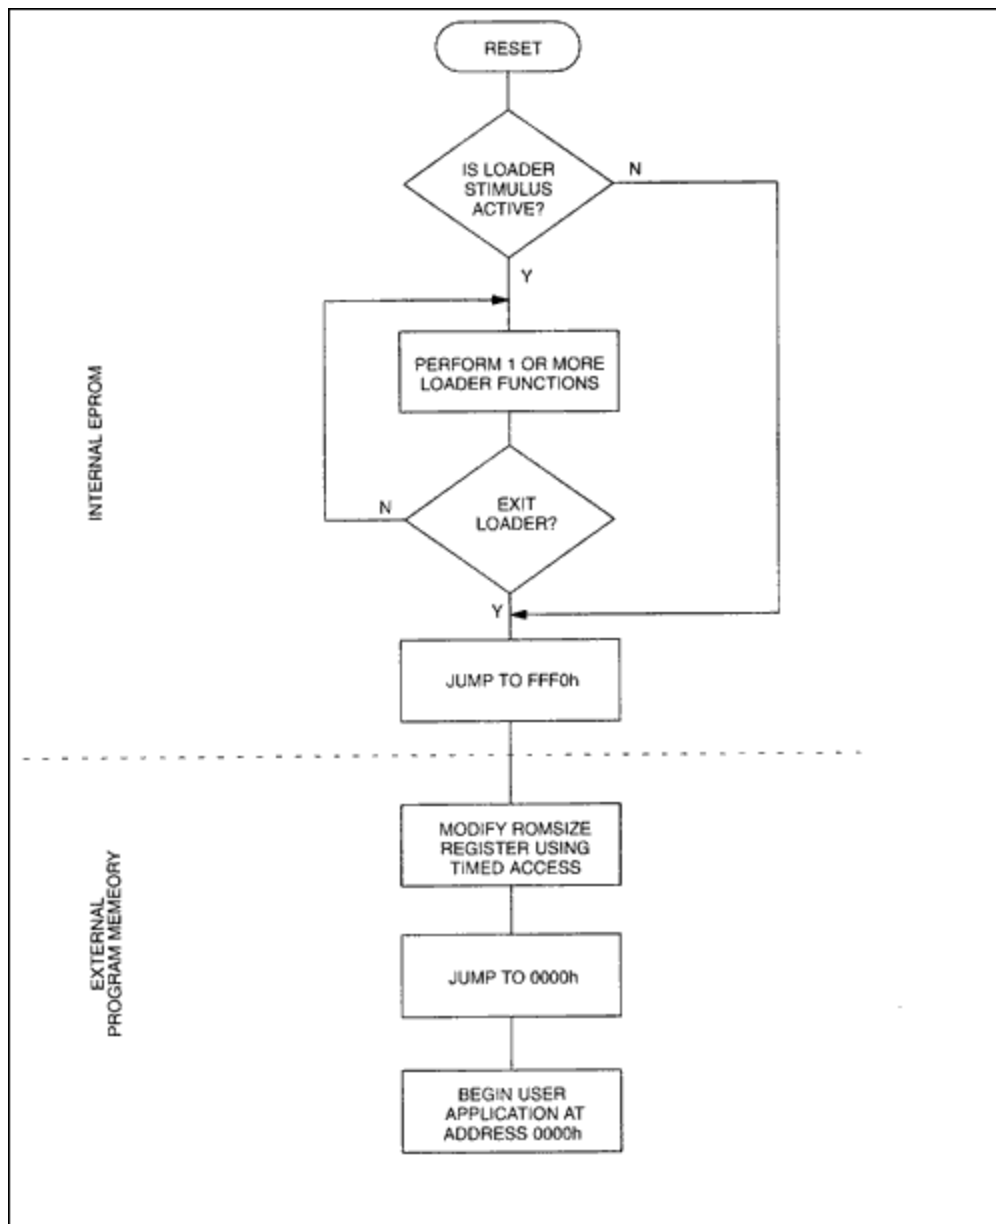

Figure 1. Bootloader flowchart.
**Figure 1** illustrates the basic operation of a bootloader program. The software begins by checking for the signal to start the loader. If present, the device performs user-requested bootloader functions. When complete, or if no loader stimulus was detected, the device will jump to location FFF0h, modify the ROMSIZE register to disable internal EPROM, and jump back to the restart vector. This simulates a